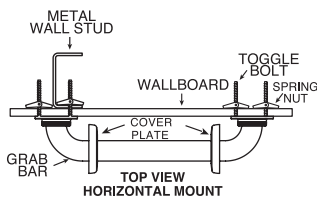

FIGURE 4
6. Pull the **TOGGLE BOLTS** on one end of the Grab Bar toward you and finger tighten the bolts to be sure that spring nuts have opened fully against the back side of the wall and metal wall studs (see **Figure 4**). If the spring nuts have not opened fully, loosen the bolts and repeat **Step 6**.